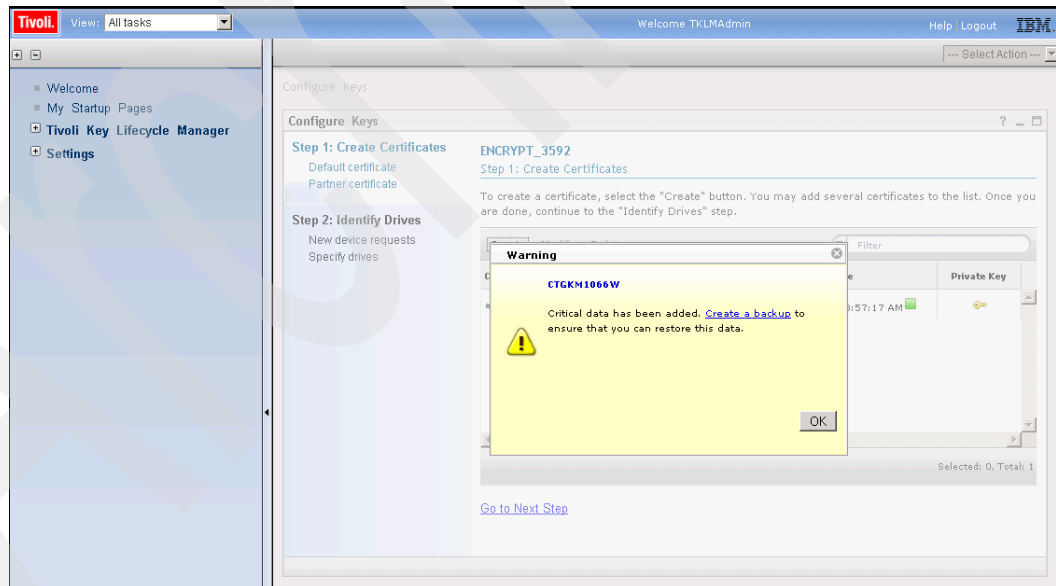

Figure 9-57 Warning to create backup after successful key creation
5. A pop-up window advises you to create a backup (Figure 9-57).